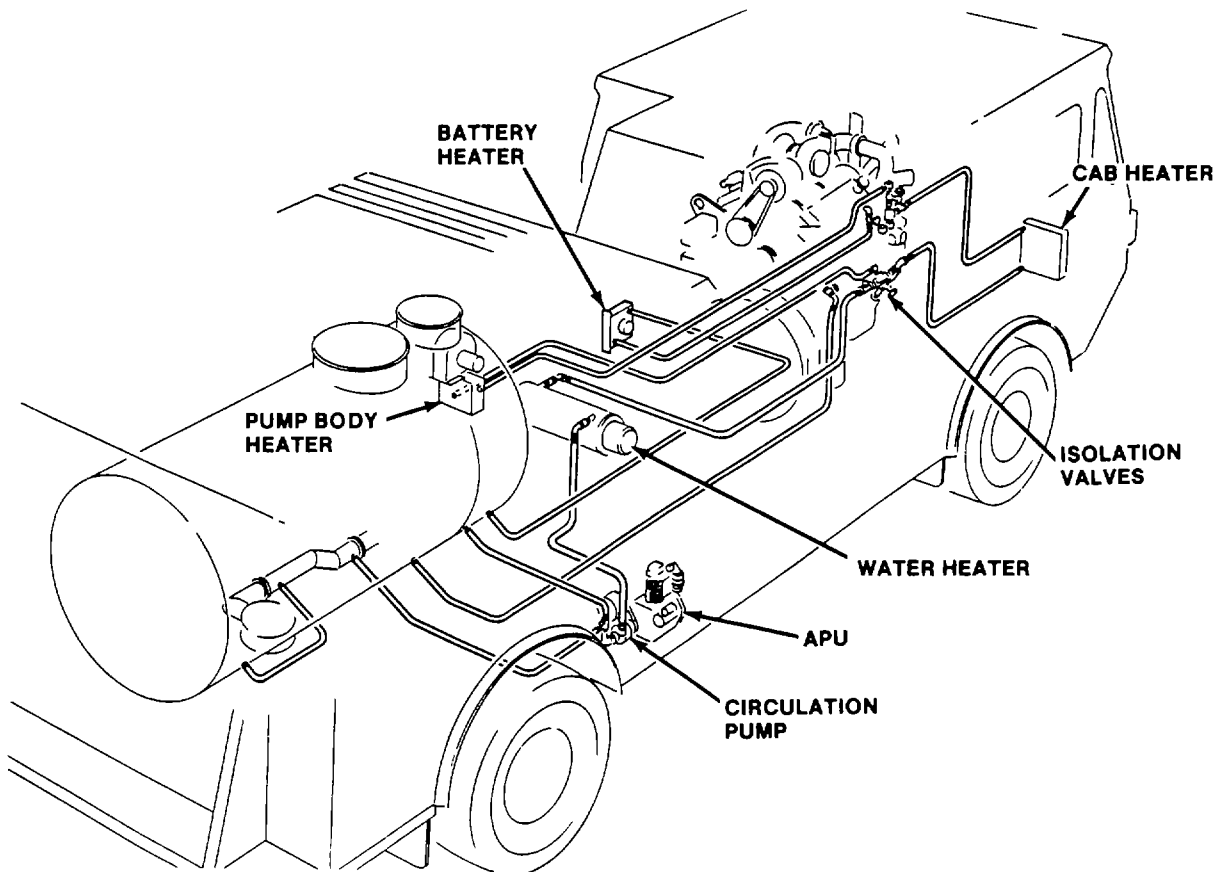

Figure 1-42. Winterization System Coolant Flow
a. When operated, the winterization system heater provides heating of the engine coolant. This coolant is distributed through the winterization system by the APU driven circulation pump, (see fig. 1-42). Individual components of the winterization system may be isolated by main engine-mounted valves. Normally all valves on the engine should be OPEN.